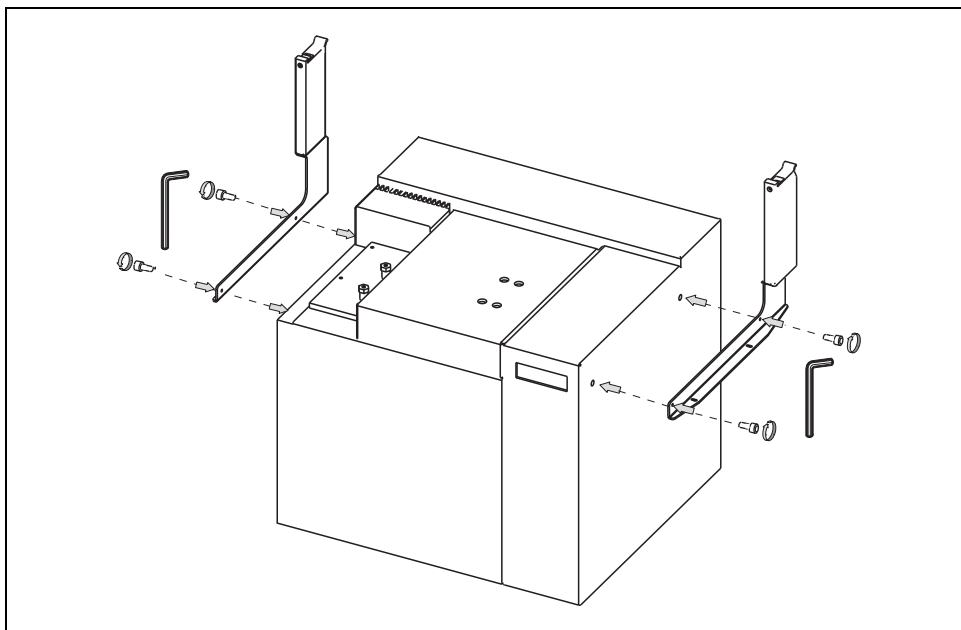

Figure 4-17. Sampler Supports Installation on an Agilent 6890 GC (1)
2. Mount the left and right sampler supports respectively on left and right sides of the GC as shown in Figure 4-17.